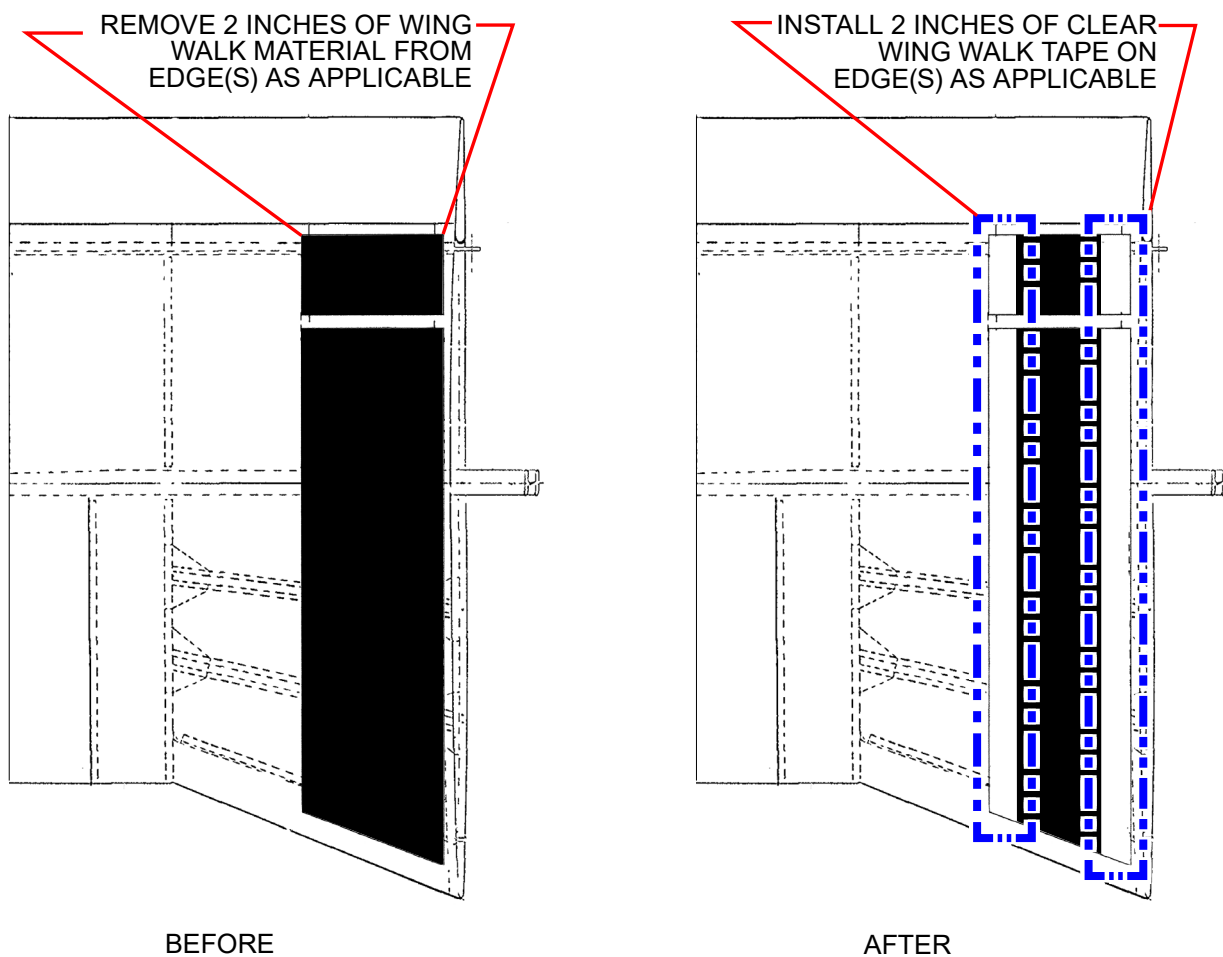

Figure 2
1. Locate the wing walk, as shown in Figure 2.
2. Remove two (2) inches of wing walk material at the location(s) indicated in Figure 2 where cracking has been discovered. While the wing walk material is removed, inspect the wing skin for cracks. If cracks are found, replacement of the wing skin and pan is required. Otherwise proceed to step 3.
3. Install a two (2) inch wide strip of 3M Safety-Walk clear wingwalk tape, 3M ID 70070548980, or equivalent transparent slip-resistant wing walk tape, at the location(s) where original wing walk material was removed. Refer to the manufacturer for installation instructions.